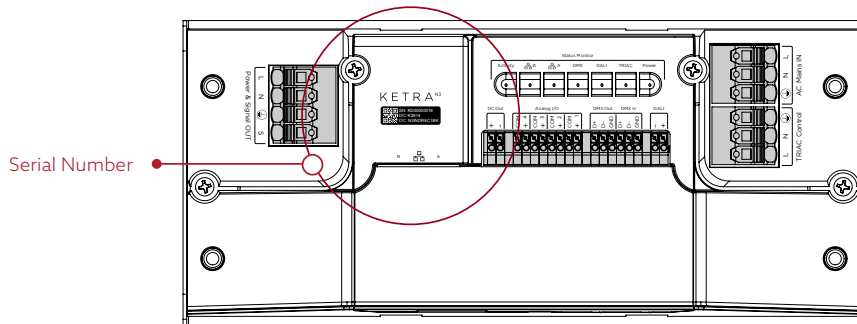

Figure 4
- We recommend noting the serial number, location, and fixtures connected on installation drawings. This can help with future programming and configuration. (The serial number can be found on the top of the control board cover - see fig. 4.)